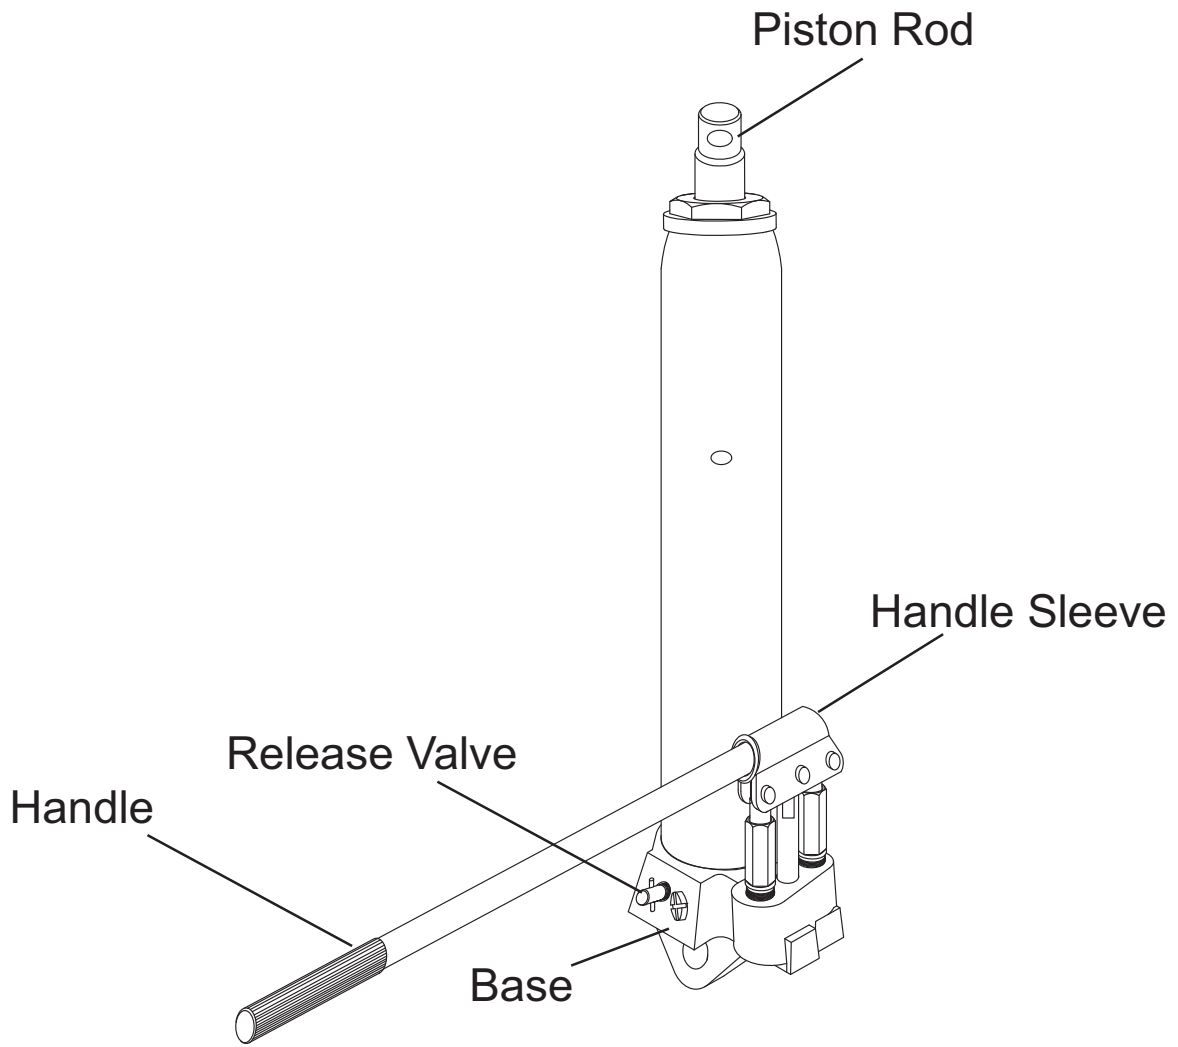

Fig. 1 - Typical Double Pump Hydraulic Ram Nomenclature
**BEFORE USE** (refer to Fig.1 and replacement parts illustration on page 5 for location of components)